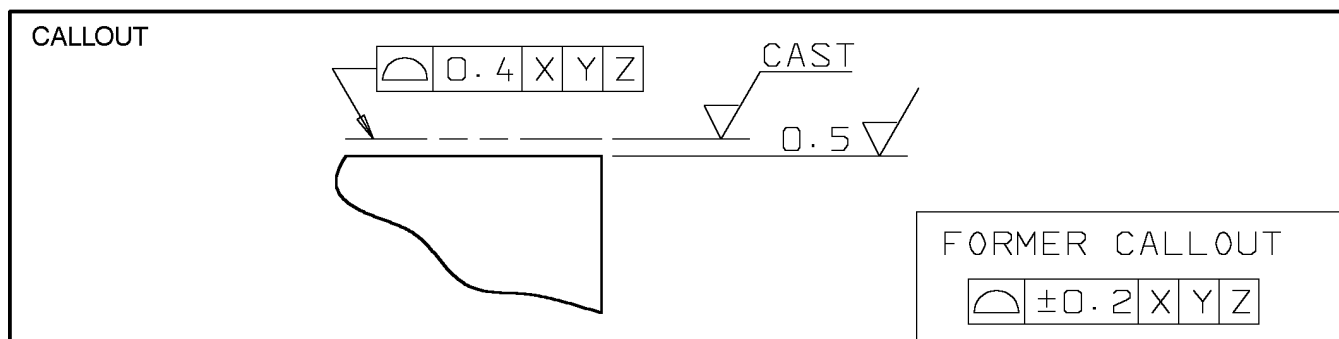

Figure 38 - Supplier Responsibility - Casting with Machining Required and Reduced Machine Allowance
**14.3** The callout in Figure 38 indicates that the casting supplier is required to machine the surface represented by the phantom line to achieve the specified basic machine allowance of 0.5 mm within the profile of a surface tolerance of 0.4 mm with respect to Datums X, Y, and Z. This reduces the amount of machining required to complete the part after the casting is received.